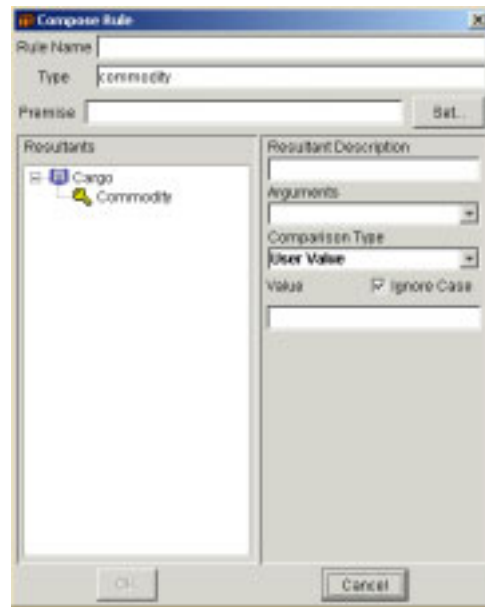

Figure 5.126 Compose Rule Window
- Click the  (Edit) button at the bottom of the window. The Compose Rule window opens displaying the name of the rule in the Rule Name text box (Figure 5.126).